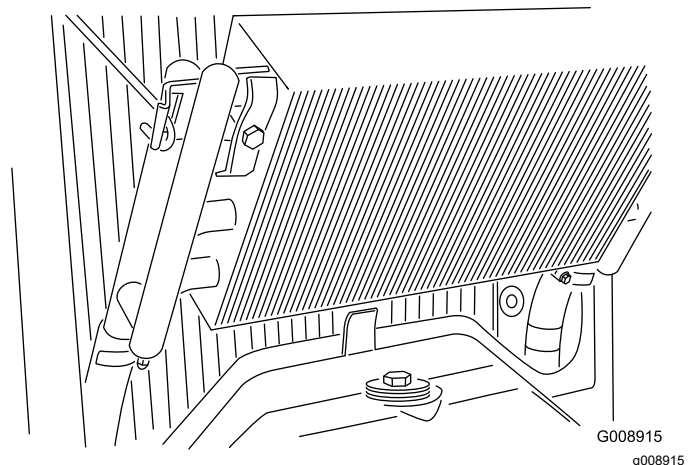

Figure 53
3. Unlatch the oil cooler and pivot it rearward (Figure 53). Clean both sides of the oil cooler and radiator area thoroughly with water or compressed air. Pivot the oil cooler back into position.